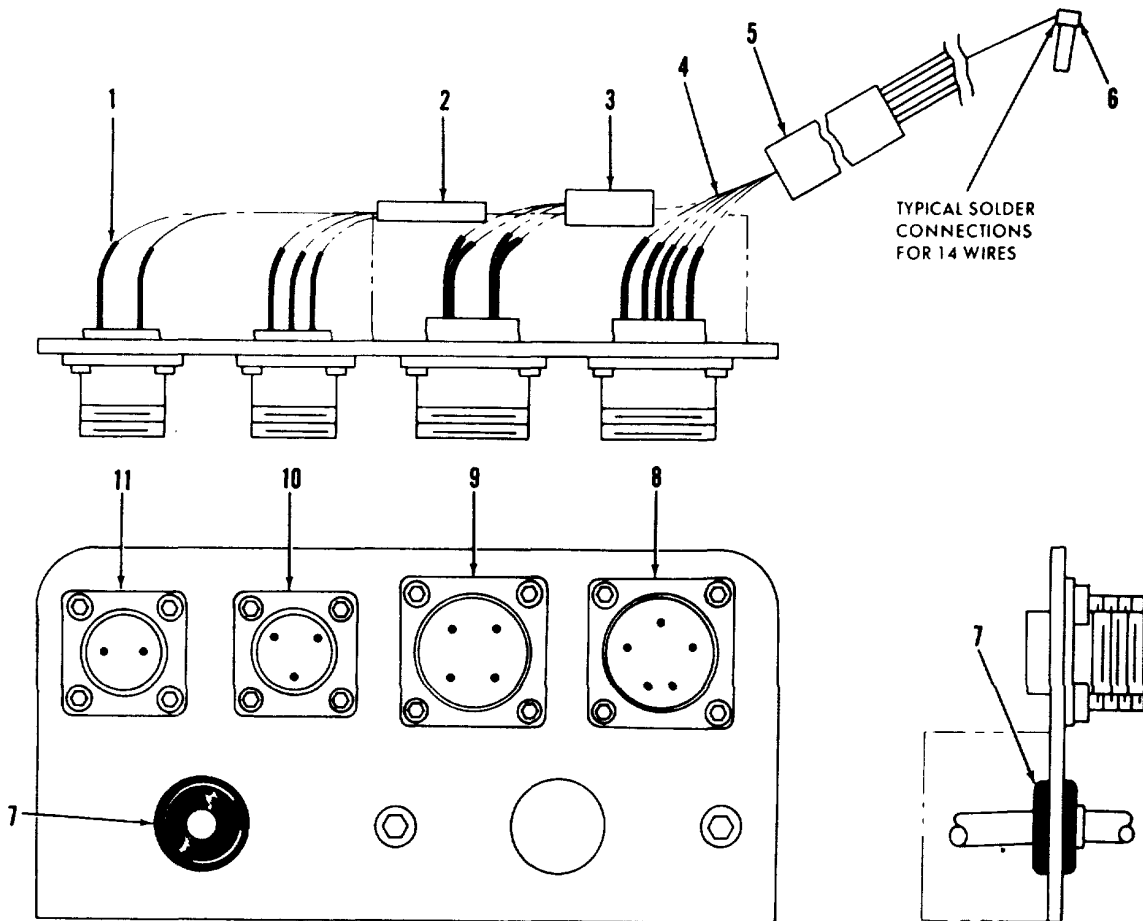

Figure 10. Lead dress and insulation.
- (2) Control wiring and install receptacles (45 through 47) as outlined in step (1) above.
- (3) Dress, insulate, and install wiring as shown in figure 10. Solder a clip (41, fig. 6) to free end of each wire.
- (4) Assemble brushes (43), caps (42), clips (41) and brush holders (40).